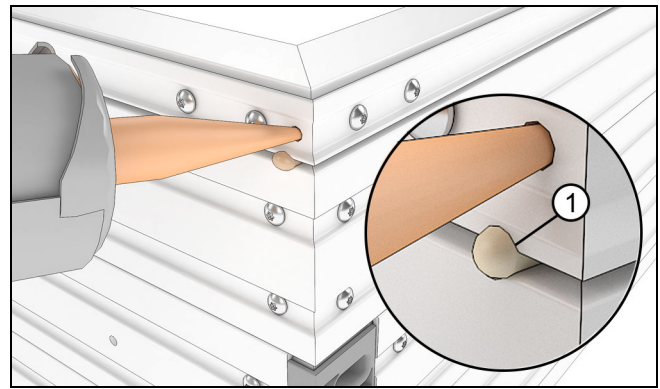

Figure 49
9. Inject the head jamb corner keys until there is squeeze out showing in the inspection hole. See Figure 49.